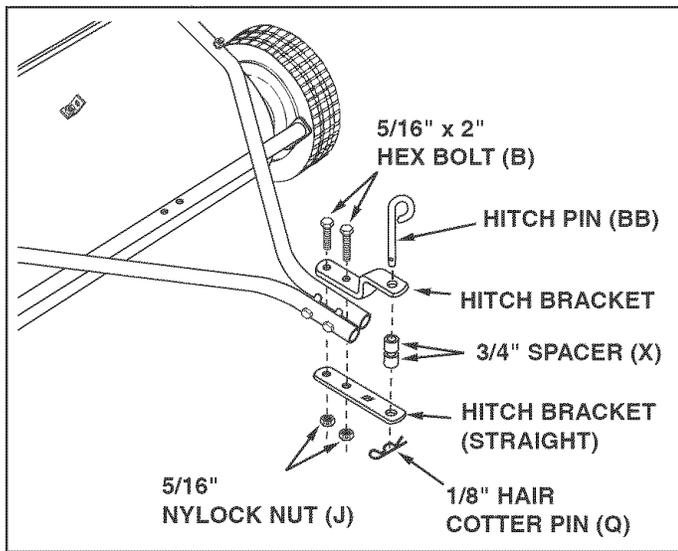
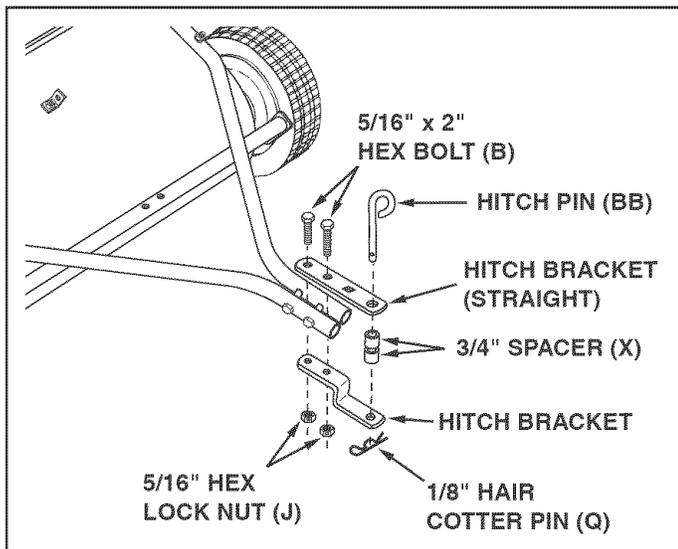

FIGURE 8
FIGURE 9
STEP 7: (SEE FIGURE 8 AND 9)
If your tractor hitch has 10" to 13" ground clearance refer to figure 8. If your tractor hitch has 8" to 10" ground clearance refer to figure 9.